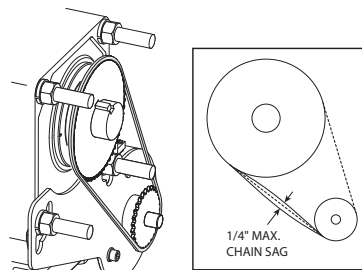

Fig 9-B
- Check chain tension, max sag is 1/2", Fig. 9-B.